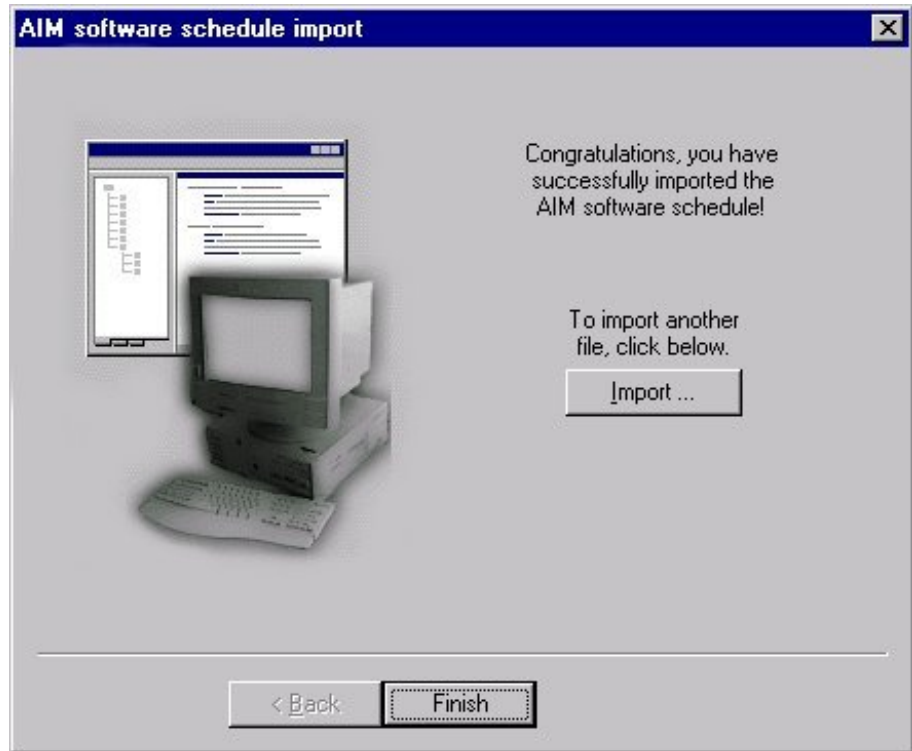

Figure 5-8: AIM Software Schedule Import Finished
- Click Next. The files are saved to your project database, and the AIM Software Schedule Import Finished screen appears (Figure 5-8).